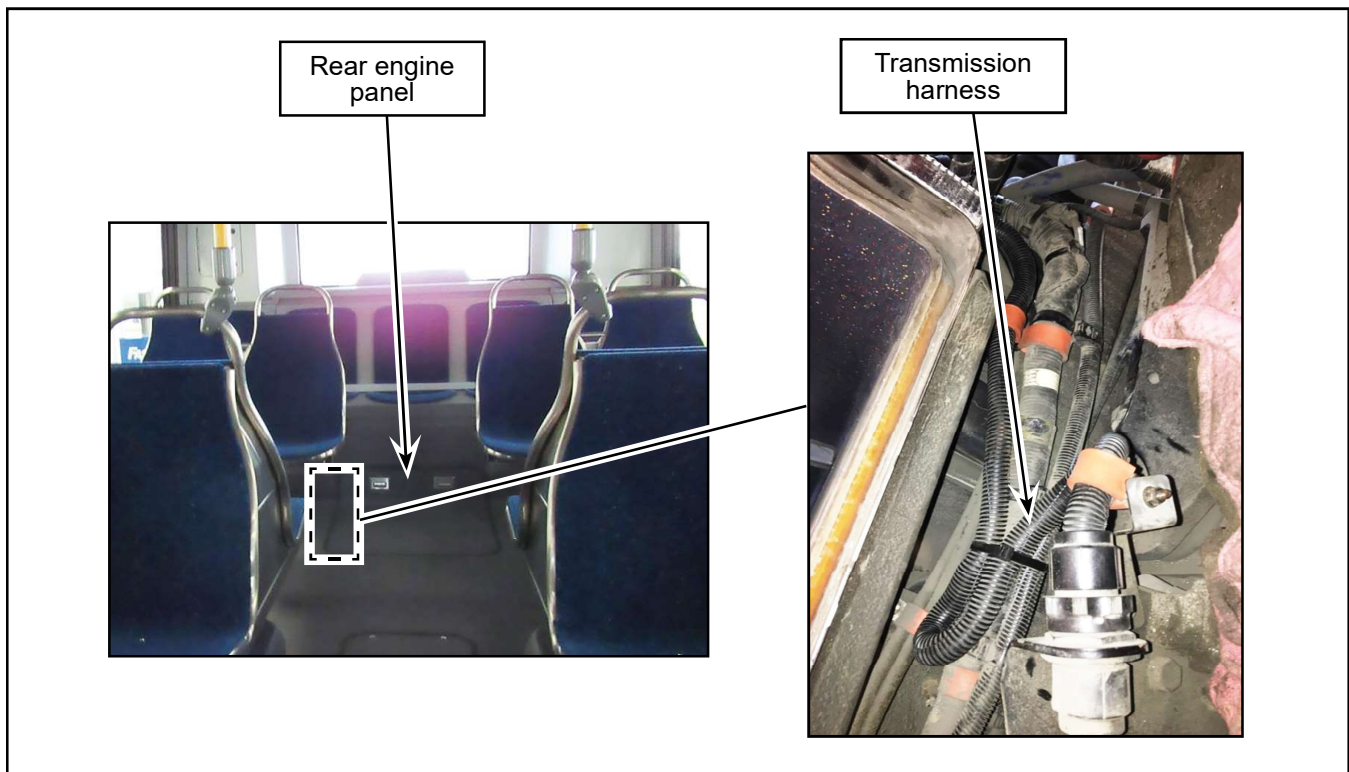

Figure 1 - Rear Engine Panel and Transmission Harness Locations
- 1.4. Open the rear engine panel and locate the transmission harness (see Figure 1).